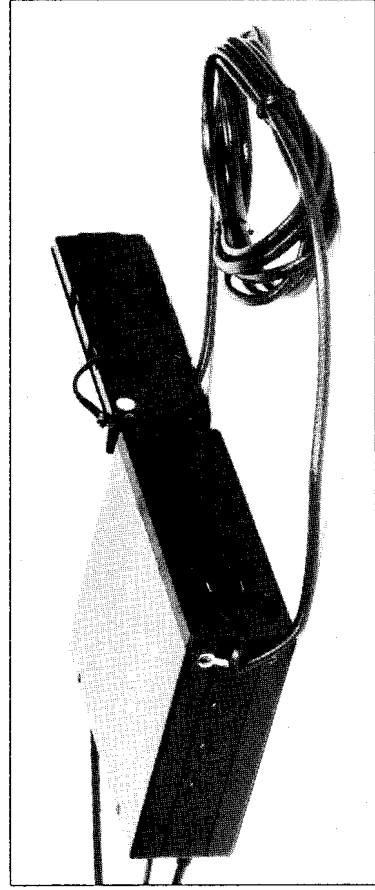

Figure 7.
- 4) Mate the connectors at the main body, and then press connectors at both ends of the extension cable into the grooves on the blank panel and on the rear of the Controller (Figure 7).